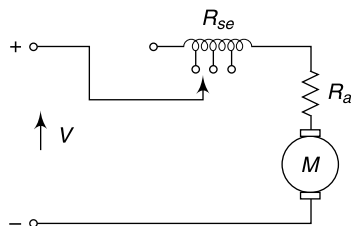

Fig. 9.31 Speed control of dc series motor by using tapped field control
- (b) The second method uses a tapped field control as shown in Fig. 9.31.